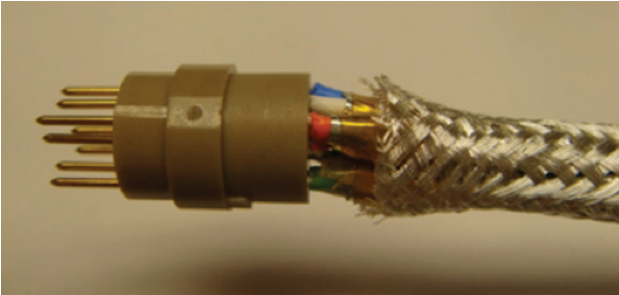

Figure 20: Replacing the braid
13. Slide the braid back toward the insulator, and trim the braid so that its end is even with or slightly covers the tape on the foil (Figure 20).